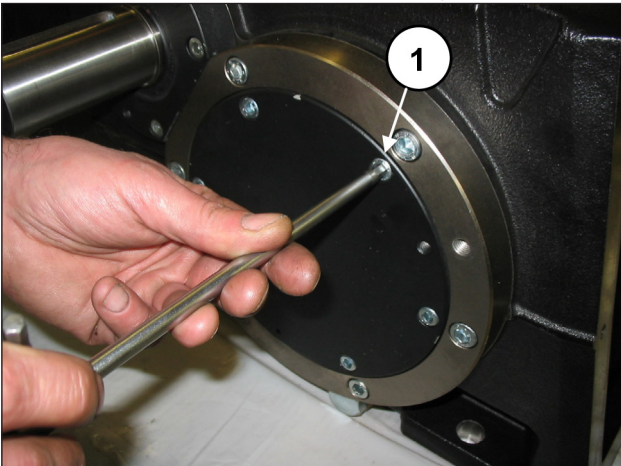

Fig. 10
Now remove the two bearing covers by unscrewing the screws (pos. ①, Fig. 10).